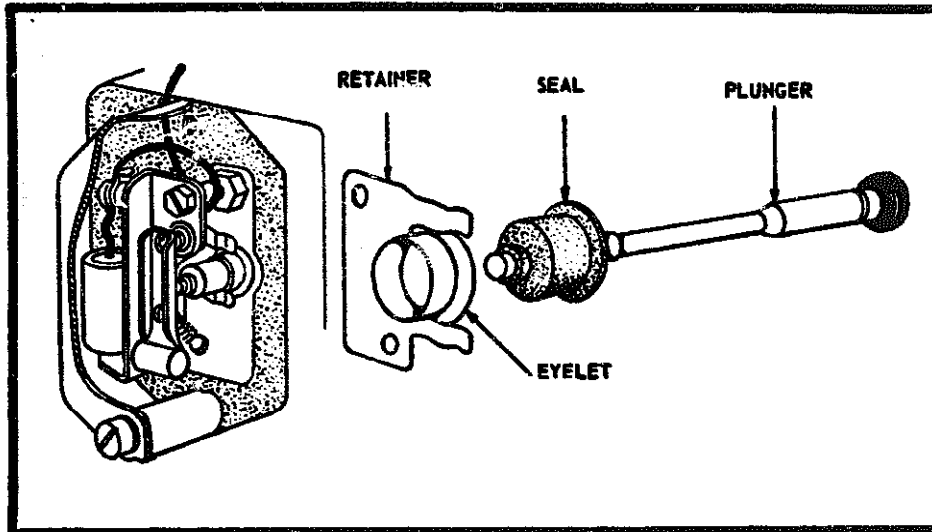

Fig. 2-11. The oil-seal assembly. (Courtesy Briggs & Stratton Corp.)
**Oil Seal.** Late model engines incorporate the oil seal pictured in Fig. 2-11. This seal, together with the retainer plate and eyelet, can be retrofitted to earlier engines to guard from oil contamination. The seal is fragile and must be carefully worked over the plunger.